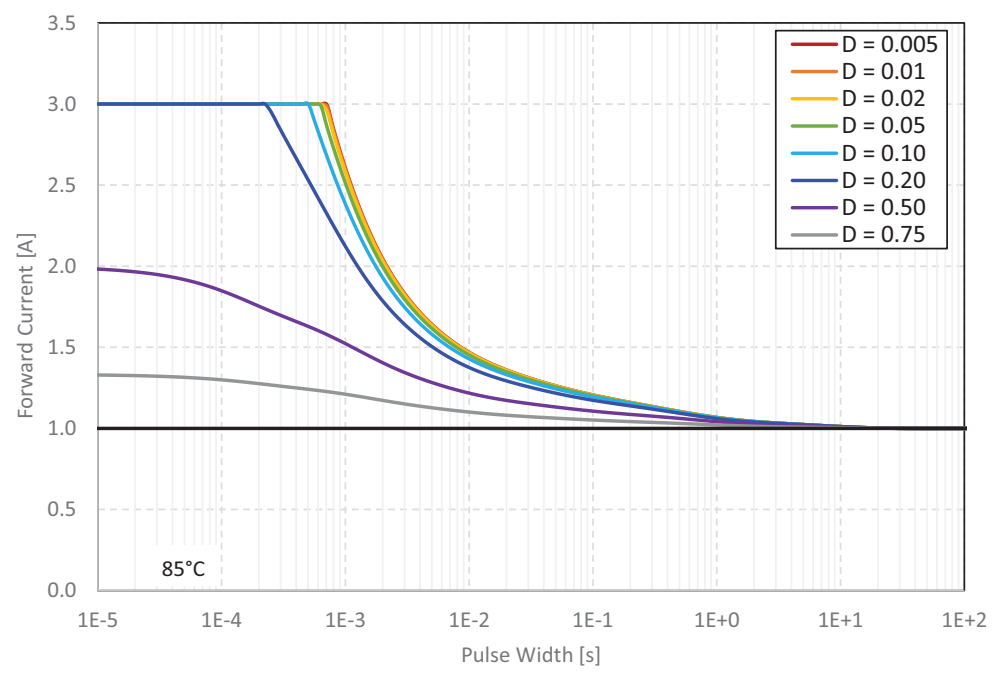

Figure 9. Permissible pulse handling capability for LUXEON IR Compact Line at $T_j=85^\circ\text{C}$ for various duty cycles (D).
2. Residual periodic variations due to power conversion from alternating current (AC) to direct current (DC), also called "ripple," are acceptable if the following conditions are met:
3. For pulse handling capability details see figure 9.